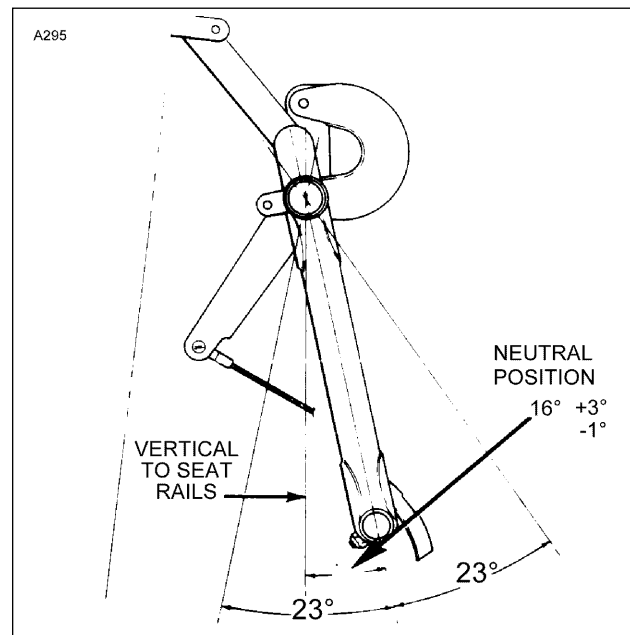

Figure 32-12. Rudder Pedals at Neutral Angle
- (6) Adjust the rod end bearings of each steering bungee to align the nose wheel with the chalk line and to bring the rudder pedals into neutral angle fore and aft. There should be no load on the bungee springs. This condition exists when the overall measurement taken between the facing sides of the washers at each rod end of the bungee is 13.71 inches. To align the nose wheel straight forward, stand in front of the nose gear and align the center rib of the tire with the chalk line or lay a straightedge along the side of the tire and parallel with the chalk line. In neutral position, the rudder pedals are tilted aft as shown in Figure 32-12, with the airplane level. Place a bubble protractor against a steering tube to check this angle. One end of each steering bungee must be disconnected and the jam nuts loosened to make this adjustment; do not attempt to make the complete adjustment by means of one bearing, but divide the adjustment between the bearings at each end of each rod. Check that the rod ends have sufficient thread engagement by determining that a wire will not go through the check hole in the rod. Reinstall bungees, tighten and safety the jam nuts.